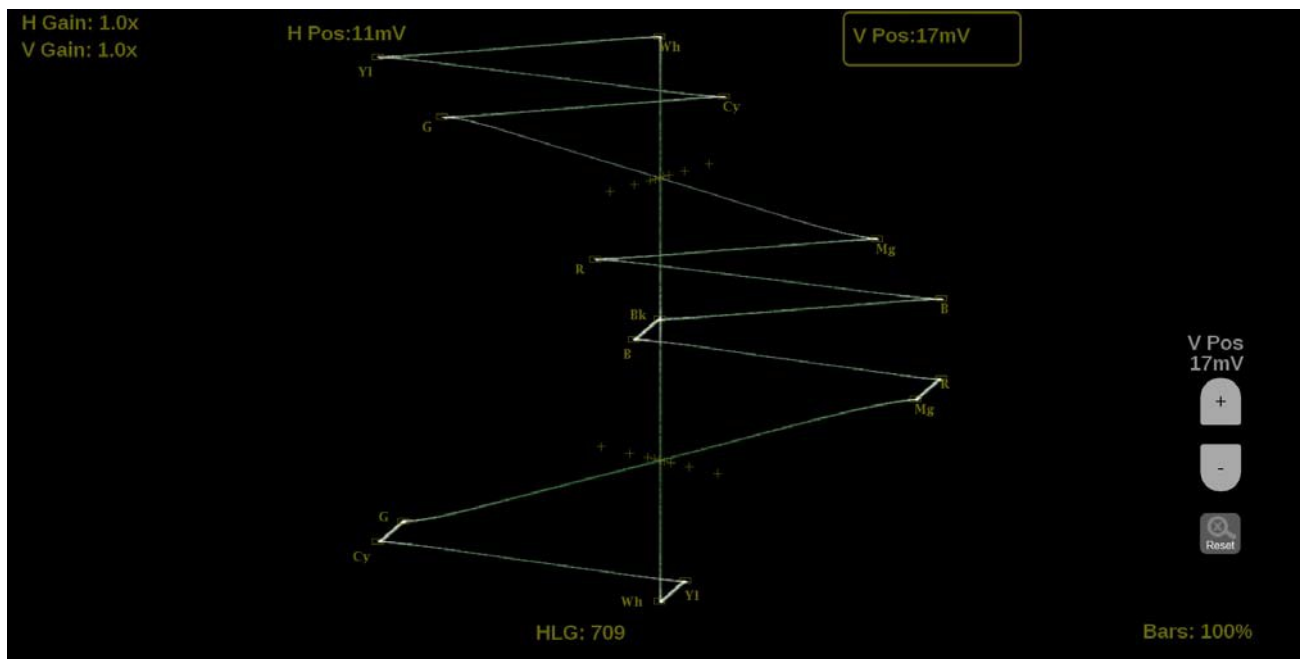

Figure 215: Lightning on-screen tools – vertical position
2. Select the **V Pos** button to allow adjustment of the vertical trace. (See Figure 215.)